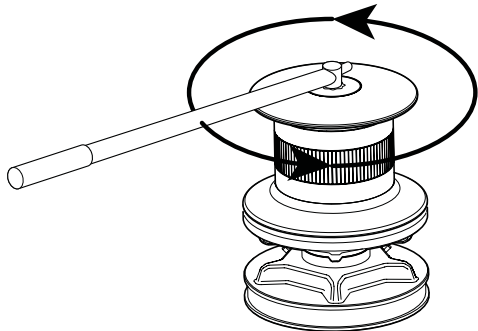

FIG.2
2. Remove the lever from the bush, wind the rope over the drum counter-clockwise (at least 3 turns) (**fig.2**).